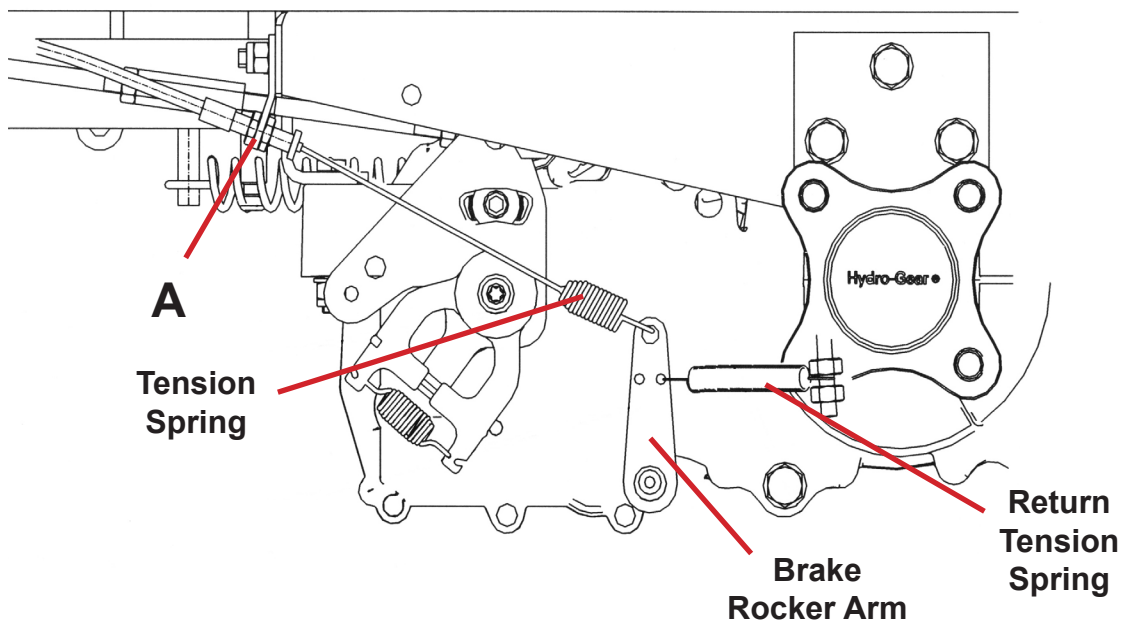

Figure 11
2. To adjust the parking brake cable loosen nut to adjust at point A (*see Figure 11*).